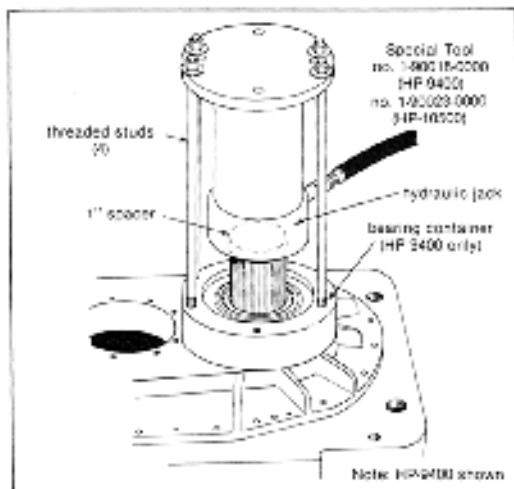

Fig. 33. Removing Cover from Housing.
Transmission should be resting engine end down (See fig 33). Support housing if necessary. Pinion shaft should be removed prior to removal of output gear.
5. Remove housing cover cap screws and pull housing cover from housing (see fig.33).